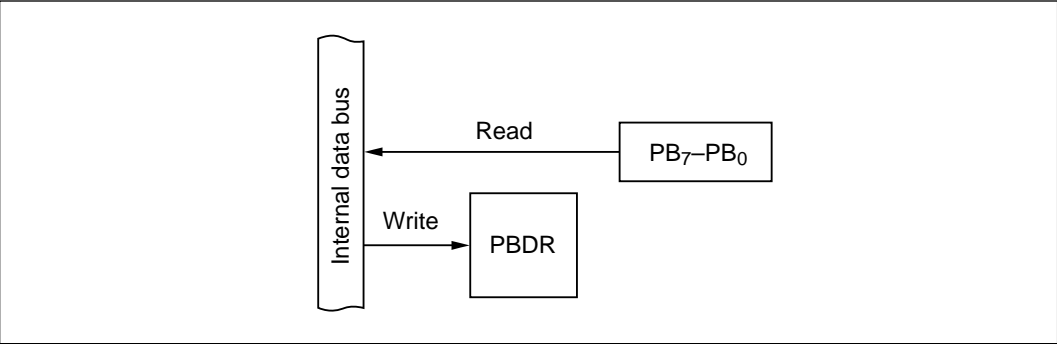

Figure 9-73 Input Port (Modes 2 and 4)
(1) **Input Port (all pins: Modes 2 and 4):** Figure 9-73 shows a block diagram illustrating the general-purpose input function. Table 9-53 indicates register read/write data. Values written in the port B data register (PBDR) have no effect on general-purpose input lines. When read, PBDR returns the value at the pin.